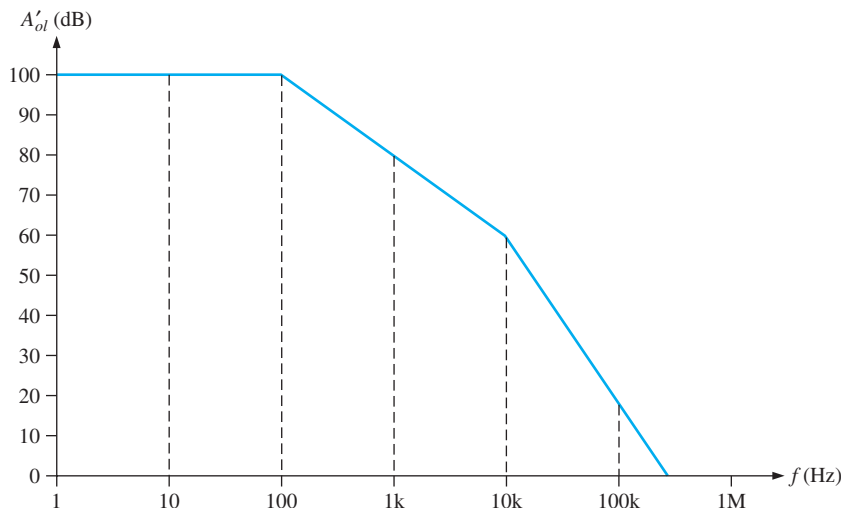

FIGURE 7-32
- 20. A certain operational amplifier has an open-loop response curve as shown in Figure 7-32. A particular application requires a 30 dB closed-loop midrange gain. In order to achieve a 30 dB gain, compensation must be added because the 30 dB line intersects the uncompensated open-loop gain on the -40 dB/decade slope and, therefore, stability is not assured.